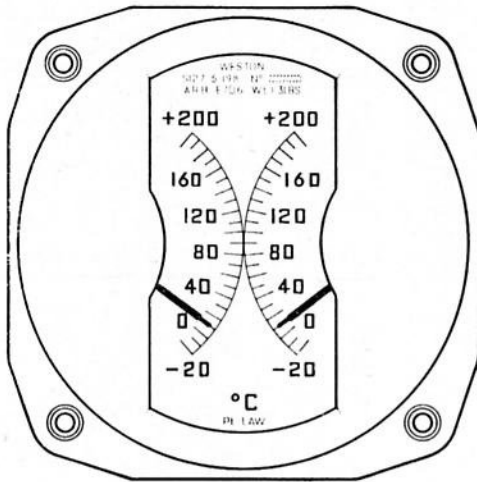

Fig. 1. Indicator, Type S127/5/198
1. The dual temperature indicator Type S127.1.198 (fig. 1) is calibrated in deg.C from -20 to $+200$ on each of two scales. The deflection of each pointer is controlled by variation of resistance of an externally connected platinum law resistance thermometer element. The two indicator movements are each designed as a ratiometer.